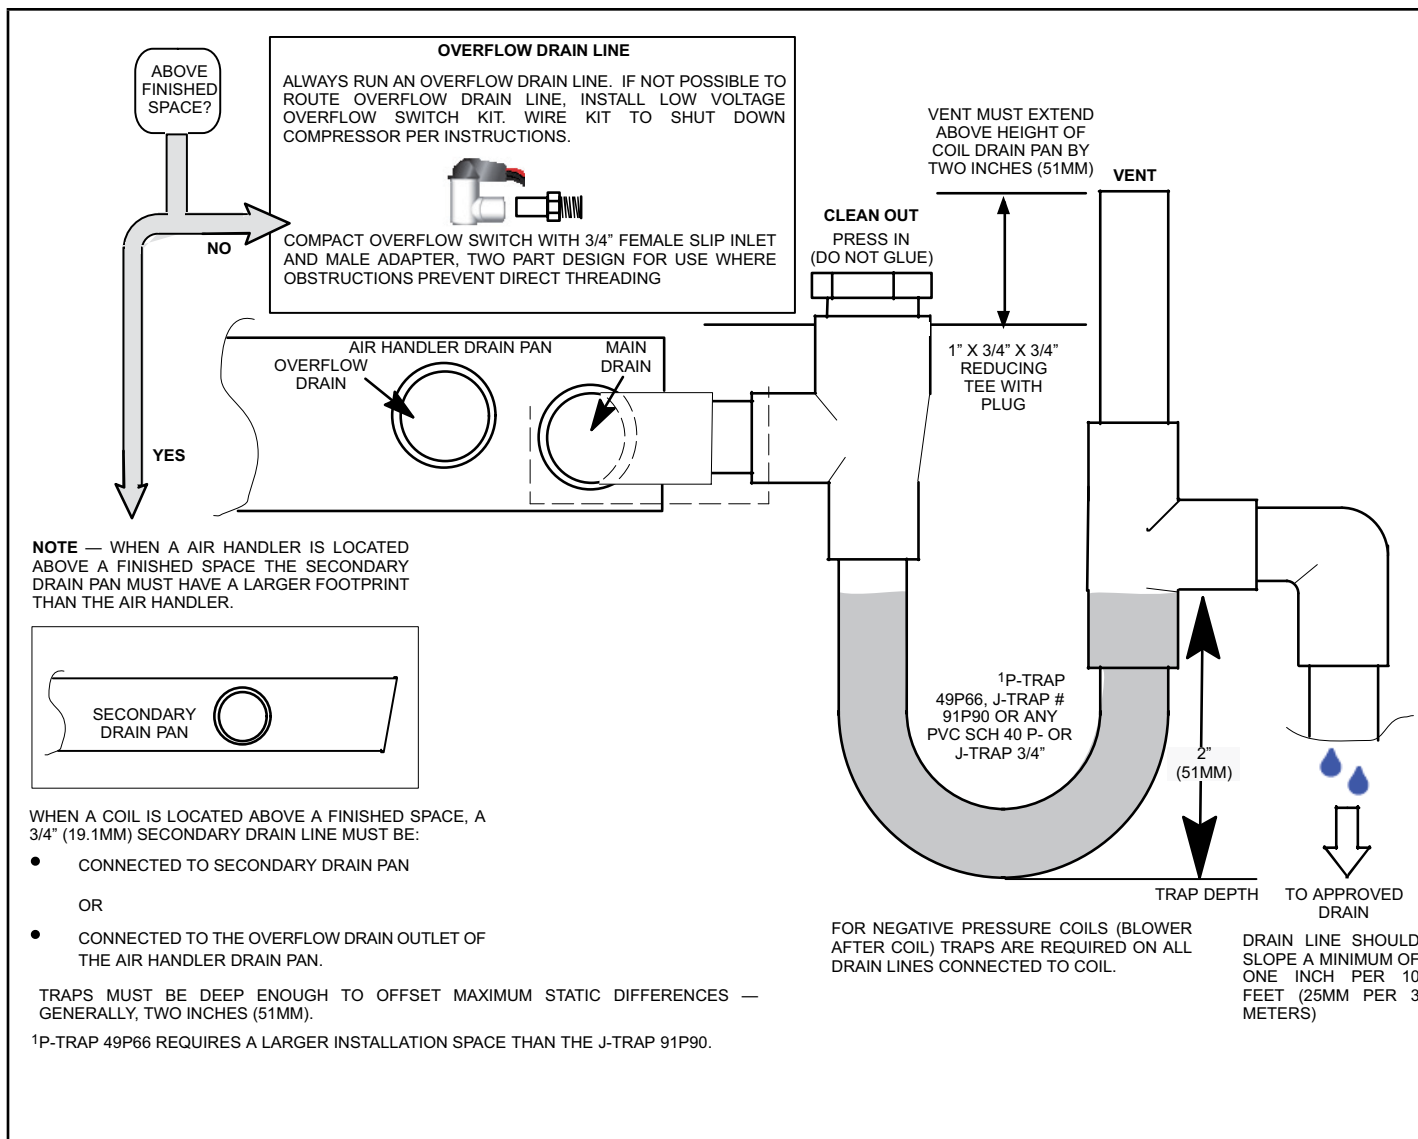

Figure 15. Typical Main and Overflow Drain
- 6 - Install a 2" trap in the main (primary) drain lines as close to the unit as practical (see Figure 15). Make sure the top of the trap is below the connection to the drain pan to allow complete drainage of the pan.
NOTE - Horizontal runs must have an anti-siphon air vent (standpipe) installed ahead of the horizontal run. See Figure 15. An extremely long horizontal run may require an oversized drain line to eliminate air traps.